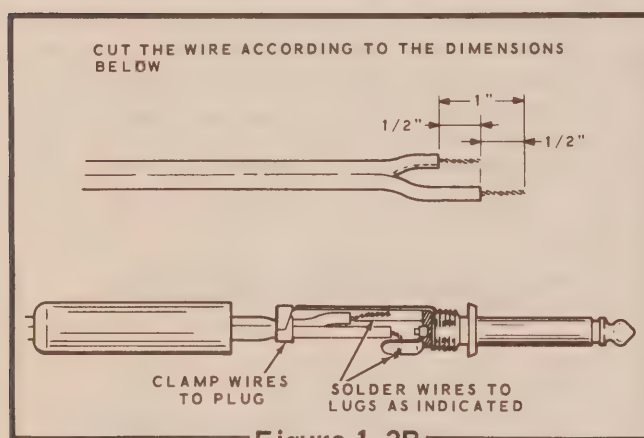

Figure 1-2B
- (✓) Cut a wire to the length required for your installation. Refer to Figure 1-2B and prepare the wire and phone plug assembly for connecting your key to the Transceiver KEY jack. Connect the other end of the wire to the terminals of your key.